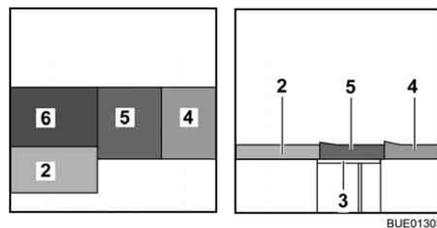

Fig. 130 After conversion
- Place the seat cushion (Fig. 130,5) in the centre.
- Place the back cushion (Fig. 130,4) between the seat cushion and the wall.